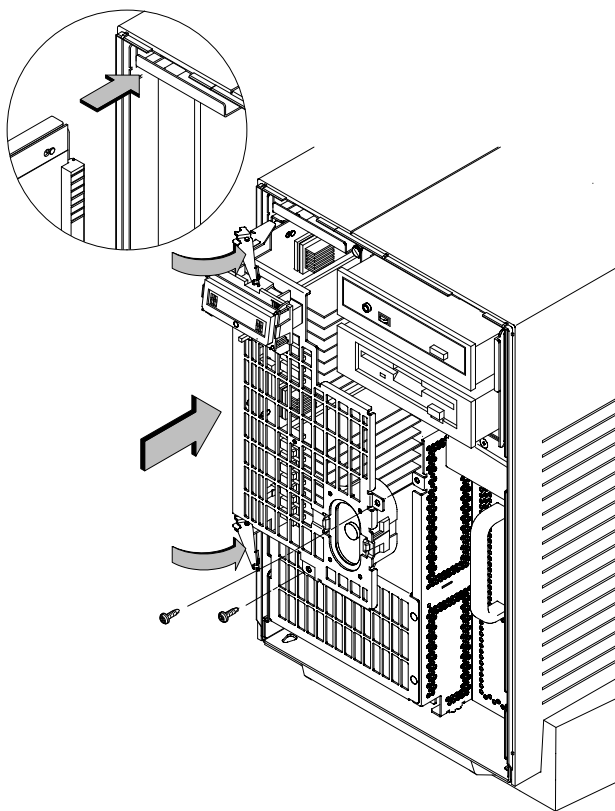

Figure 7. Replacing the Main Tray Assembly
3. Replace the two main tray retaining screws, as shown in Figure 7.